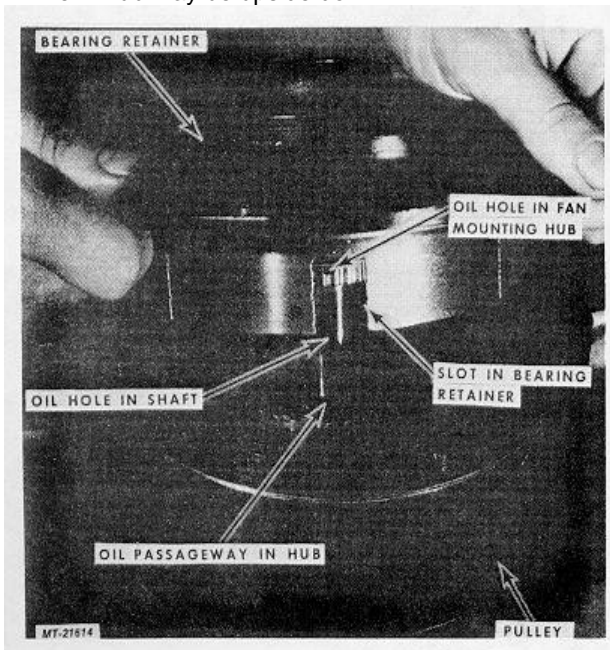

Fig. 84
47. In final assembly, the oil hole located in the spline of Fan Mounting Hub must be aligned with the oil passageway in Hub, Fig. 84.